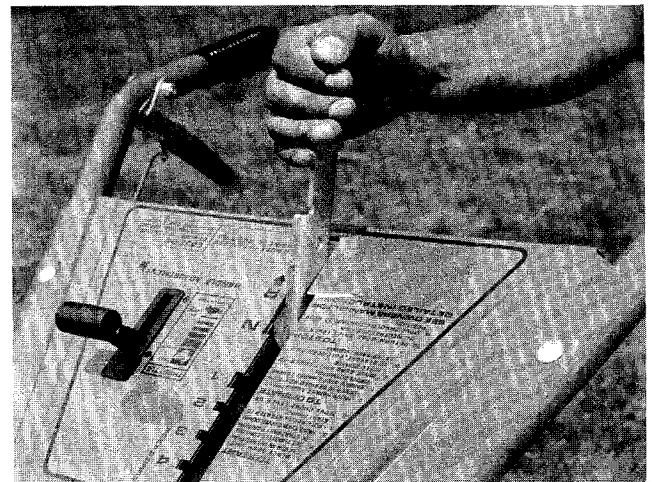

FIGURE 15.
2. Neutral (N)—Move lever to detent marked "N."
3. Reverse (R)—Raise up on the handles to lift the tines out of the ground and pull the gear shift lever back (upward) slowly to obtain reverse. Always use caution when using the reverse. When using reverse, if gear shift lever is released it will snap back into neutral (N). See figure 15.